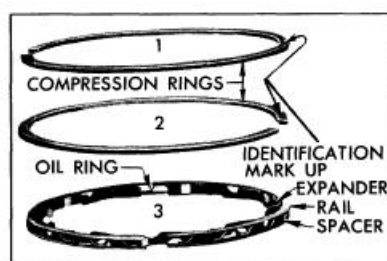

Figure 2-34—Compression and Oil Rings
7. Install compression rings in first and second lands of each piston. Top rings are assembled with inner bevel toward top of piston and second ring inner bevel toward bottom of piston. See Figure 2-34.